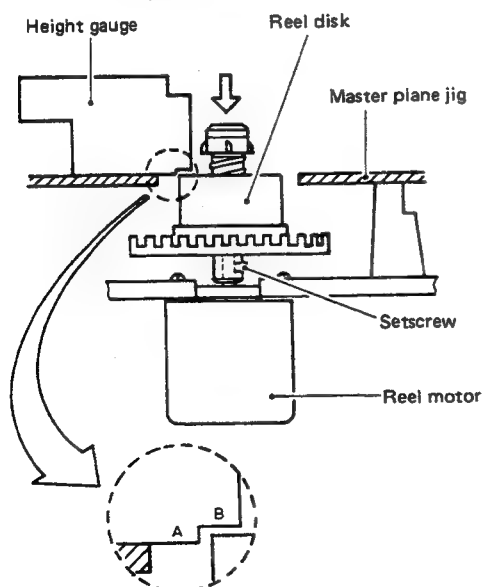

Fig. 2-19 Reel disk height adjustment
3. The correct height is between planes A and B, as shown in Fig. 2-19. If necessary, loosen the setscrew and adjust to the correct height.